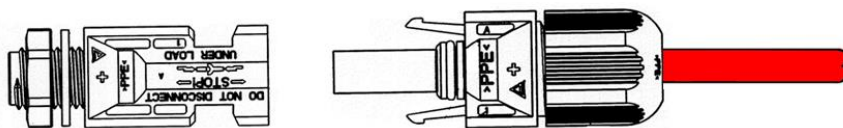
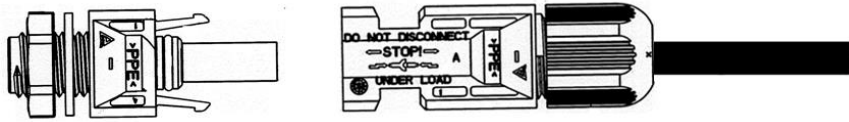

Figure4-14 Connect with the positive pole of DC input
Figure4-15 Connect with the negative pole of DC input.
- Step 7 Insert the positive connector and negative connector into the ports marked with "+" and "-" in the inverter respectively. If there has a click sound, it means it have been inserted properly, as shown in Figure4-14 and Figure4-15.